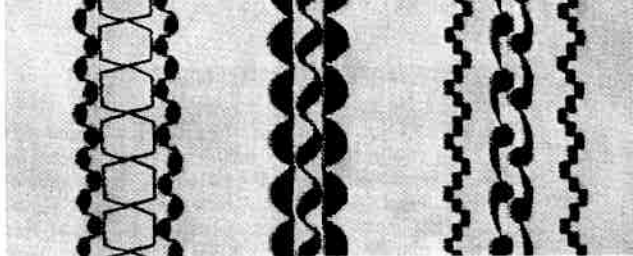

Fig. 75
- b) Different seam patterns combined together (see fig. 75).